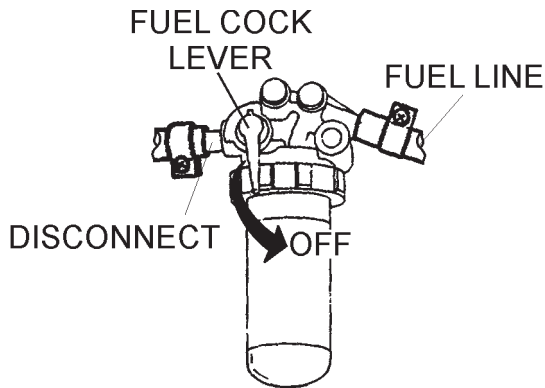

Figure 32. Fuel Cock Lever (OFF)
1. Place fuel cock lever (Figure 32) in the close position.